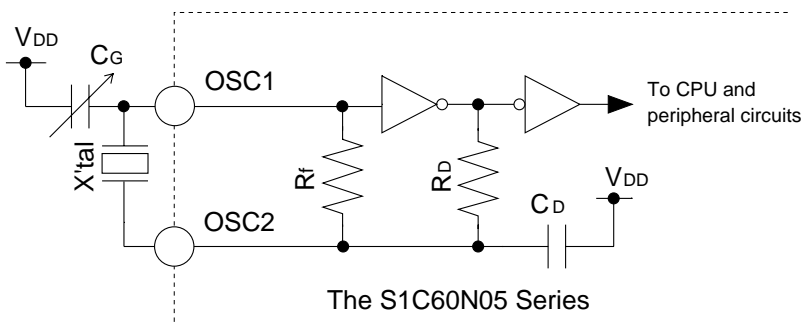

Fig. 4.2.1
Figure 4.2.1 is the block diagram of the crystal oscillation circuit.
As Figure 4.2.1 indicates, the crystal oscillation circuit can be configured simply by connecting the crystal oscillator (X'tal) between the OSC1 and OSC2 pins and the trimmer capacitor (CG) between the OSC1 and VDD pins.